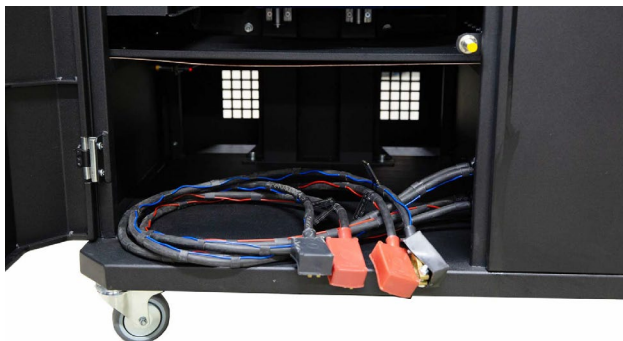

Figure 13. Location of the storage batteries in the bench.
1. Connect 12 V batteries (DC), which must be placed in the battery compartment of the test bench (see Fig. 13). Use the keys (included in the kit) to open the left door. When connecting the batteries,